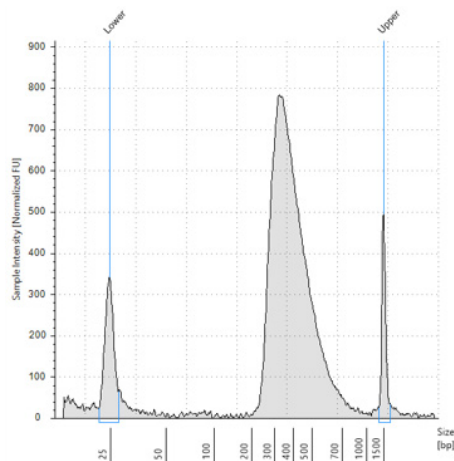
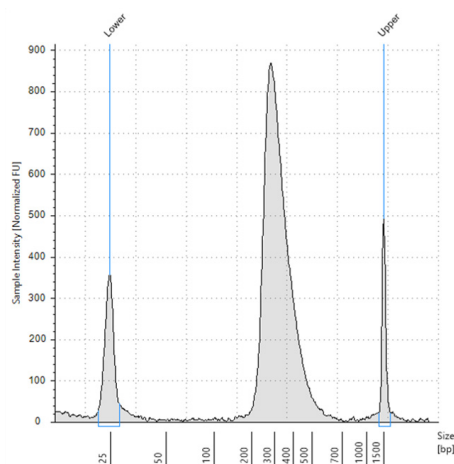

Figure 18 Post-capture library prepared from an intact RNA sample analyzed using a High Sensitivity D1000 ScreenTape assay
Figure 19 Post-capture library prepared from a typical FFPE RNA sample analyzed using a High Sensitivity D1000 ScreenTape assay
- 16 Verify that the electropherogram shows the expected DNA fragment size peak position (see Table 99 for guidelines). Sample electropherograms are shown in Figure 18 (library prepared from high-quality DNA) and Figure 19 (library prepared from medium-quality FFPE DNA).
Using manual preparation of the analytical samples, you can analyze the DNA samples on Agilent 2100 BioAnalyzer, Agilent 5200 Fragment Analyzer, or Agilent 4200/4150 TapeStation. Electropherograms obtained using one of these other analysis platforms are expected to show fragment size profiles similar to those shown for the Agilent 4200 TapeStation (see Figure 18 through Figure 19). Verify that the electropherogram shows the expected DNA fragment size peak position (see Table 99 for guidelines). Table 100 includes links to assay instructions.